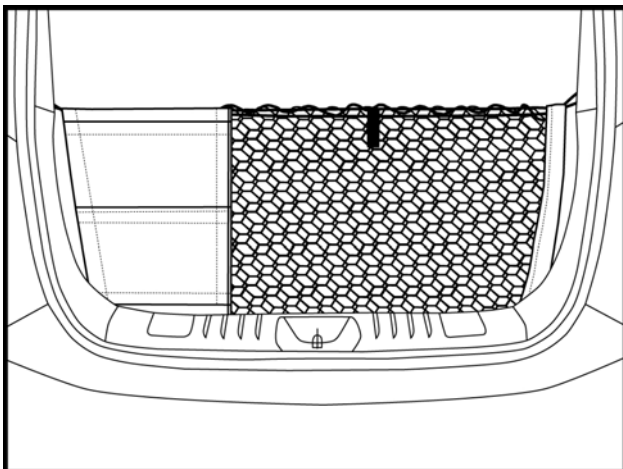

Fig. 2-3
- (d) Completed assembly as shown. (Fig. 2-3)